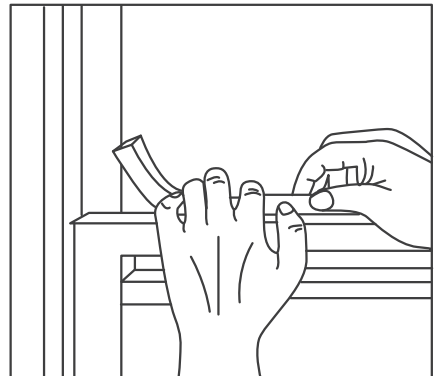

Fig.12
- 7** Cut foam seal and insert in the space between the upper and lower sashes (Fig.12).